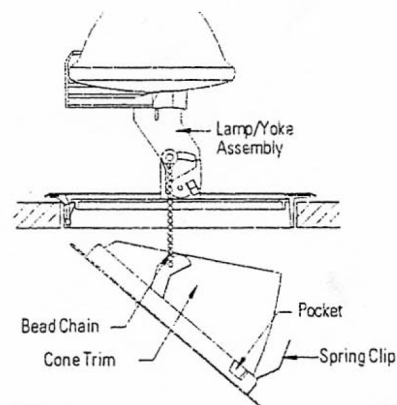

FIG. 4
1. Attach BEAD CHAIN from CONE TRIM to YOKE RING ASSEMBLY (FIG. 4).